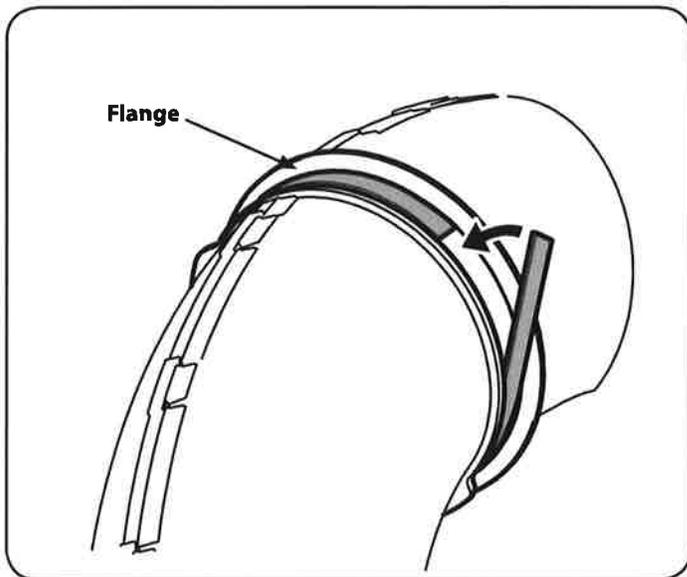

Figure 24
1. Peel the backing off of the self-adhesive foam strip (721-04388) that has been included within your Contents of Carton. Apply it to the upper chute, flush against the flange as shown in Figure 24.